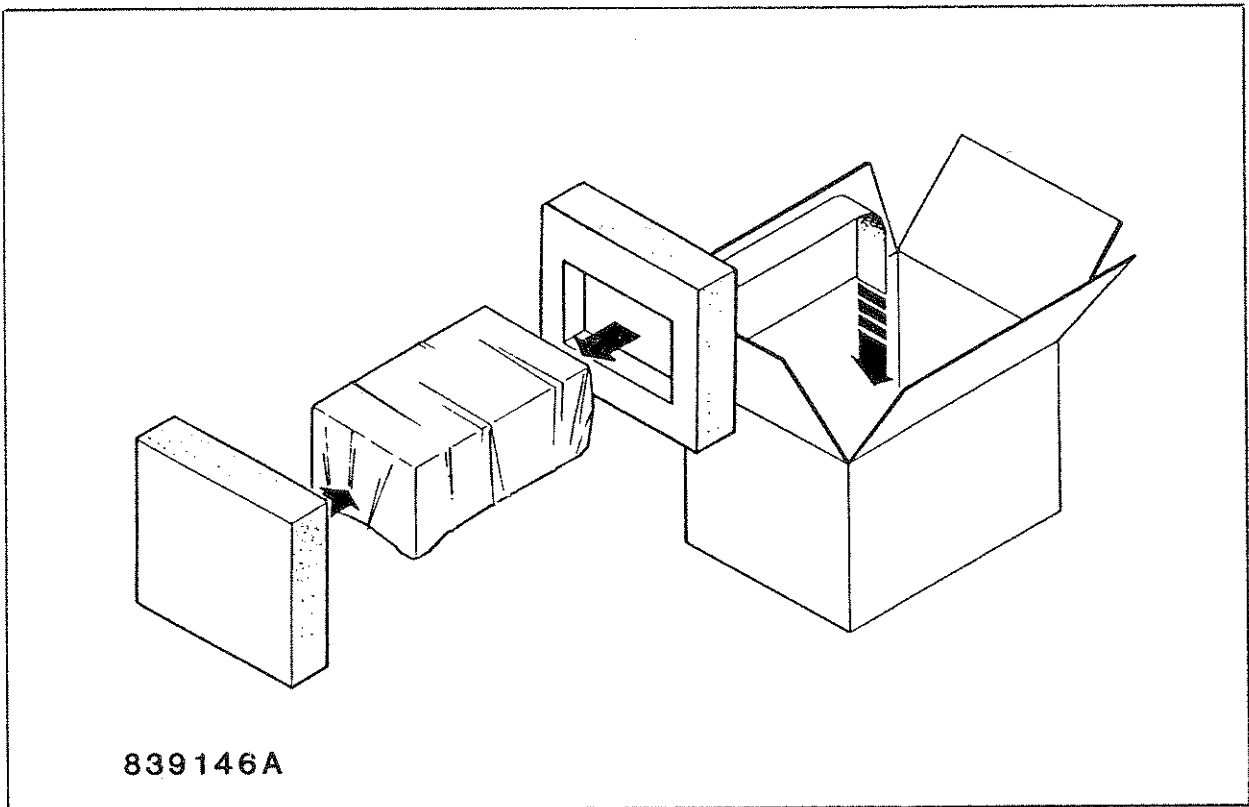

Figure 2-1. Packing and Unpacking Diagram
**2-2. UNPACKING.** The 2520 is shipped complete and is ready to use upon receipt. Unpack the instrument from its shipping container and inspect it for damage that may have occurred during shipment. See **Figure 2-1.**